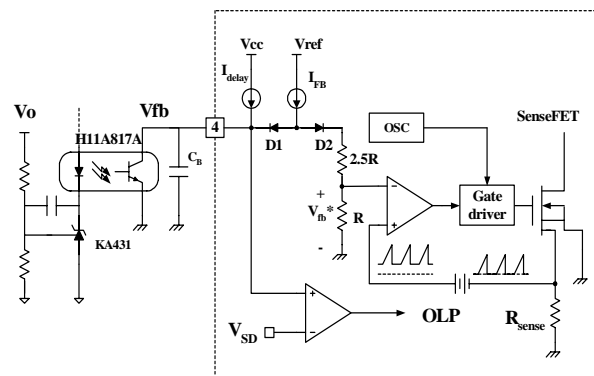

Figure 5. Pulse width modulation (PWM) circuit
2. Feedback Control : FSDM0565RB employs current mode control, as shown in Figure 5. An opto-coupler (such as the H11A817A) and shunt regulator (such as the KA431) are typically used to implement the feedback network. Comparing the feedback voltage with the voltage across the R_{sense} resistor plus an offset voltage makes it possible to control the switching duty cycle. When the reference pin voltage of 2.5V, the H11A817A LED current increases, thus pulling down the feedback voltage and reducing the duty cycle. This event typically happens when the input voltage is increased or the output load is decreased.
2.1 Pulse-by-pulse current limit: Because current mode control is employed, the peak current through the Sense FET is limited by the inverting input of PWM comparator (Vfb*) as shown in Figure 5. Assuming that the 0.9mA current source flows only through the internal resistor (2.5R + R = 2.8 kΩ), the cathode voltage of diode D2 is about 2.5V. Since D1 is blocked when the feedback voltage (Vfb) exceeds 2.5V, the maximum voltage of the cathode of D2 is clamped at this voltage, thus clamping Vfb*. Therefore, the peak value of the current through the Sense FET is limited.